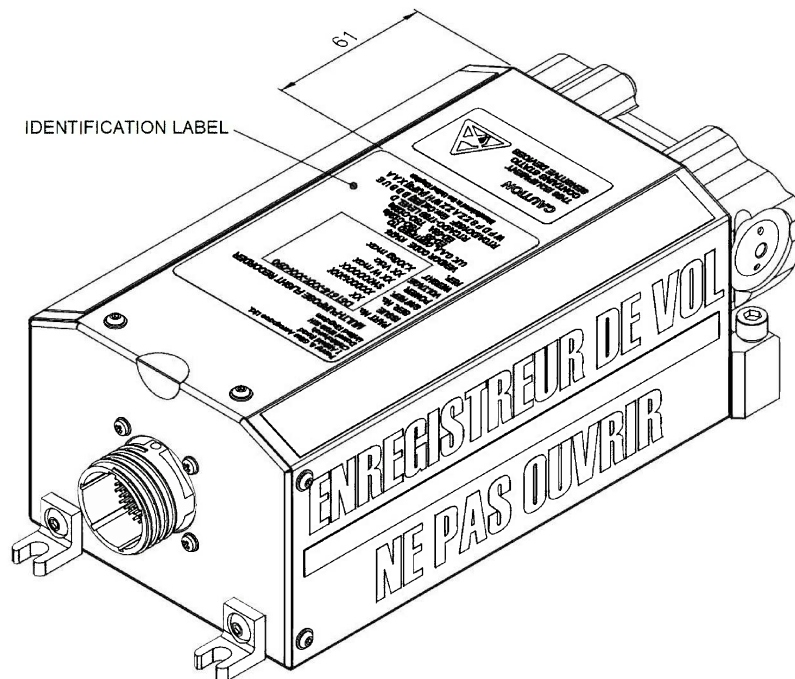

Figure 2 Identification Label Placement
Refer to Figure 2.
- (6) Fit the fluorosilicone seal (140) into the bore of the appropriate mounting bracket into which the base of the beacon (130) is to be located (refer to Figure 2)
- (7) Slide the ULB into the bracket firmly up against the seal
- (8) Secure LH bracket (120) to the recorder using screws (90), (110) and washers (50). See steps 3 & 4 above
Carefully apply the new identification label (supplied as part of the 90-Day ULB Upgrade Kit) to the top surface of the Main Cover centrally, approximately 61mm from the bottom edge of the Main Cover (see *Figure 2*). Ensure the identification label is securely fitted.